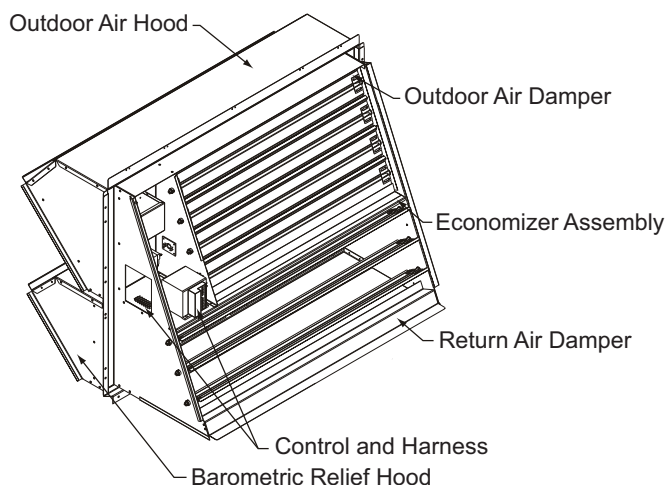

Fig. 32 — Bottom Return Economizer Package (BREP) for Sizes 07-17
1. Check for correct number of parts shown in Fig. 32 and the following list.